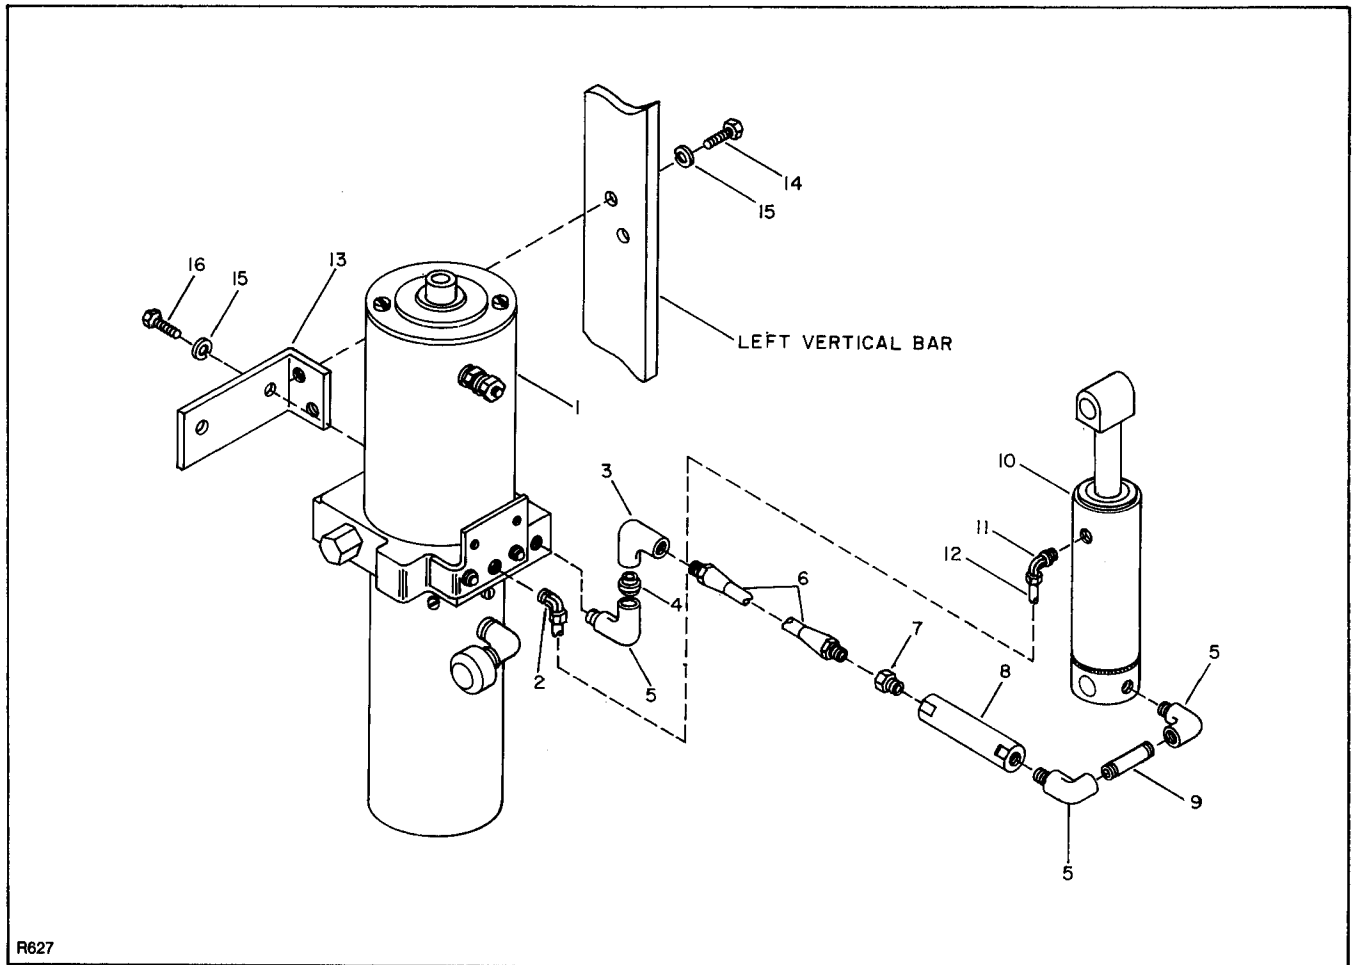

Figure 3-20. Hydraulic System (Serial Number 81936 and Lower)
3-21. HYDRAULIC SYSTEM REPAIR (Figure 3-20 or 3-21)
Figure 3-20 illustrates the complete hydraulic systems for trucks with serial number 81936 and lower. The hydraulic system for newer trucks is shown in figure 3-21. The pump-motor-reservoir assembly (1) and the lift cylinder are repair-